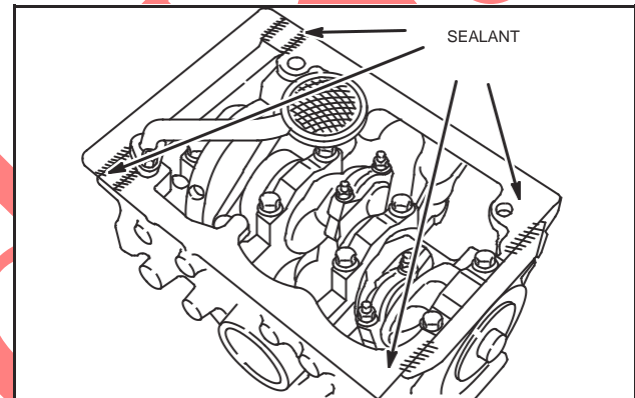

Fig. 22 – Installing Oil Pan
- a. Apply a small bead of Permatex No. 2 or similar sealant to crankcase areas shown, Fig. 22.